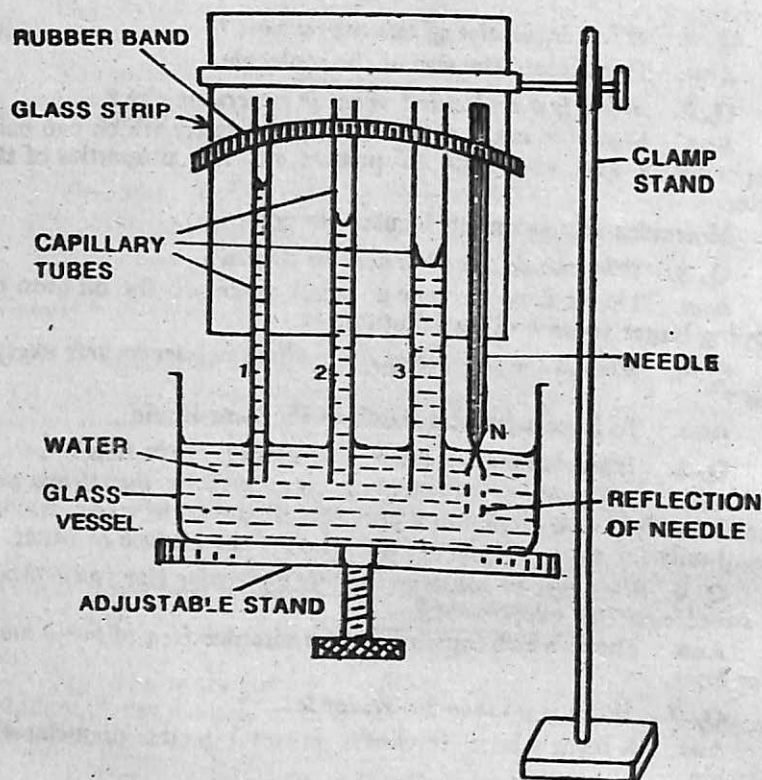

Fig. 28-1. Surface tension of water.
3. Mount the capillary tubes on a clean glass strip with a rubber band, such that the distance between them is about one cm. Also mount a thin needle on the glass strip parallel to capillary tubes (Fig. 28.1) so that its fine end projects a little less than that of the capillary tubes.